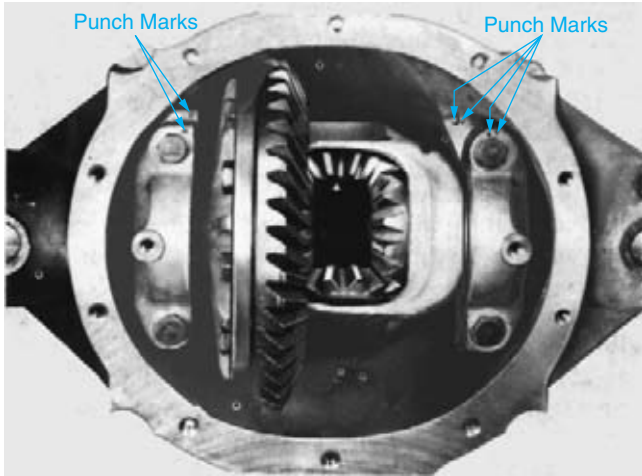

FIGURE 12-53 Index marks should be placed on the bearing caps before removal to ensure proper replacement. (Courtesy of DaimlerChrysler Corporation)
1. Using a punch and hammer or permanent marker, place index marks on each of the bearing caps (Figure 12-53).